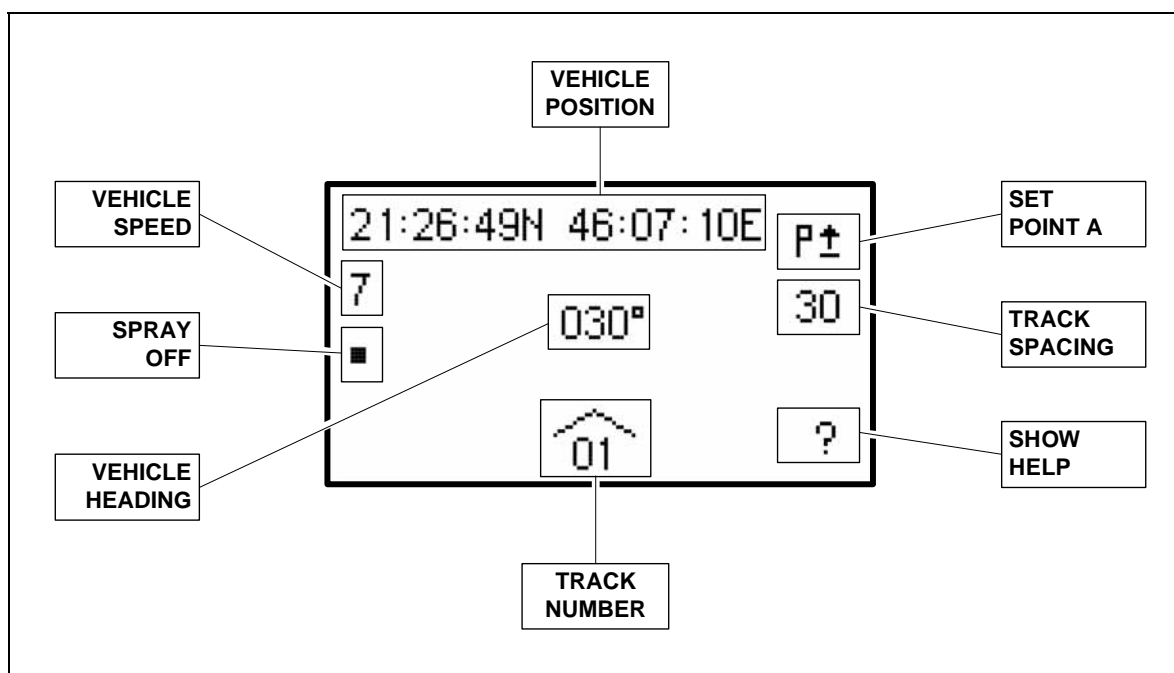

Fig. 8 –Initial Guidance Display
3. Wait for the **ACQUIRING GPS** message to disappear and for the display to change to initial guidance mode (see Fig. 8). This may take 1 – 2 minutes if the GPS receiver is being used for the first time in a new location as it must acquire a new almanac of the GPS satellites and store this in its internal memory. Note that the GPS receiver must have an unobstructed view of the sky to function correctly. It will not receive signals from the GPS satellites if it is used under a metal roof or immediately adjacent to a tall building. In these cases, the display will show **ACQUIRING GPS** indefinitely.
After the GPS receiver has acquired all satellites in view, the display will change to the initial guidance mode as shown in Fig. 8. This shows the following information:
2. Touch the BEGINNING OF TRACK button **P**↑ (denoting a flag at the start of the block) – see Fig. 8. The icon alongside this button will change to **P**↑ (denoting a flag at the end of the block – see Fig. 10). Note that the vehicle can be moving or stationary when the button is touched.